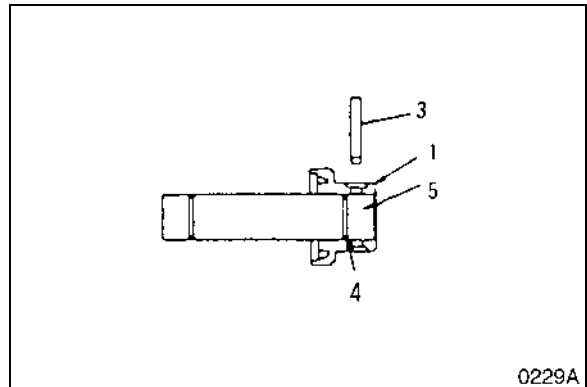

Figure 26
1. Degrease, clean and dry all parts before reassembly. Insert bushing (8, Figure 26) into the idler (7).
2. Grease O-ring (4, Figure 26) and insert it into the axle.
3. Align the bearing (1, Figure 26) and axle (5) holes and pin (3) them together.